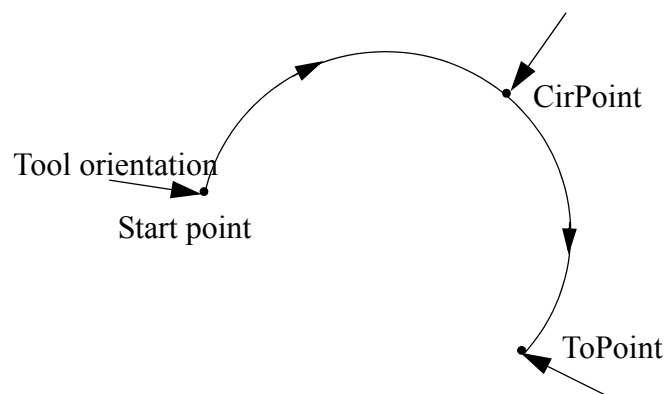

Figure 11 Tool orientation during circular movement.
- The reorientation is performed relative to the circular path. Thus, if the orientation relative to the path is the same at the start and the destination points, the relative orientation remains unchanged during the movement (see Figure 11).